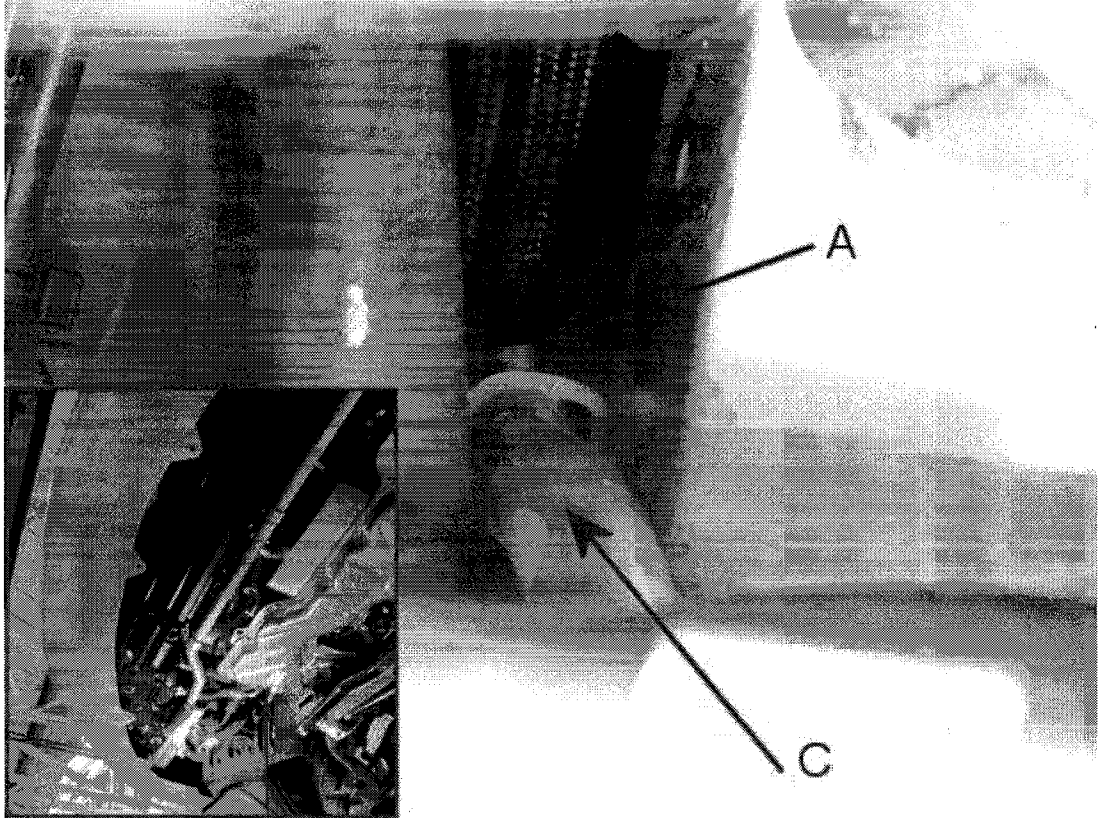
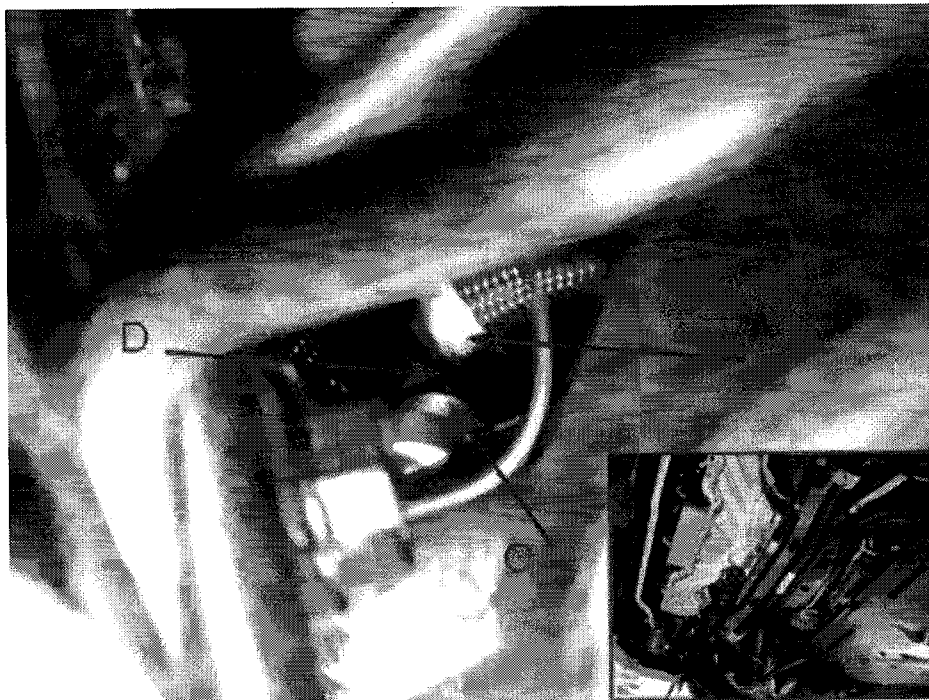

Figure 3
Figure 4
2. With the front undersheet removed and referencing figure 3 and 4 identify if the fuel hose is clipped onto the air filter housing. The metal retaining strap on the hose (A) can be viewed from under the vehicle (figure 4) and by touch, follow the coolant pipe (C) up by hand until the metal retaining strap (A) can be felt. The presence of a gap between the strap at (A) and the coolant pipe (C) is evidence of correct clipping, also by touching the front clip on the air filter housing it can be identified if the fuel hose is engaged into that clip